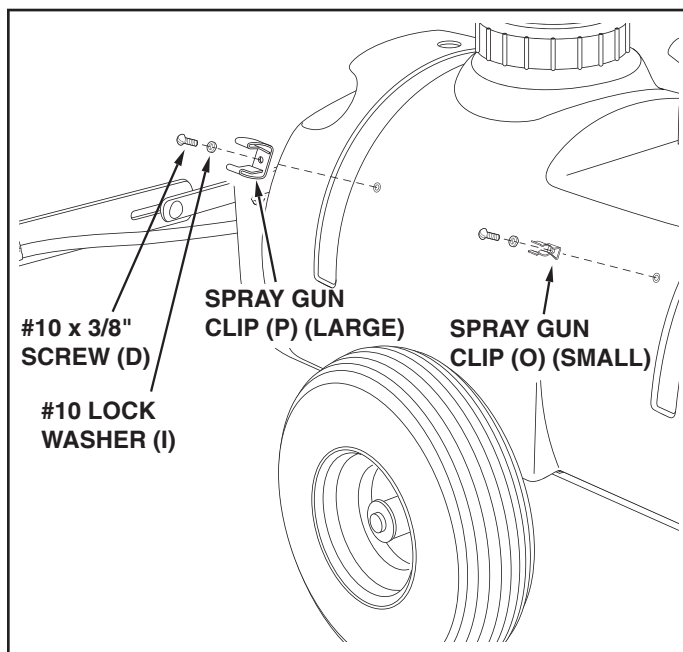

FIGURE 7
STEP 7: (SEE FIGURE 7)
- Assemble the large (P) and small (O) spray gun clips to the side of the tank using two #10 x 1/2" screws (D) and #10 lock washers (I).